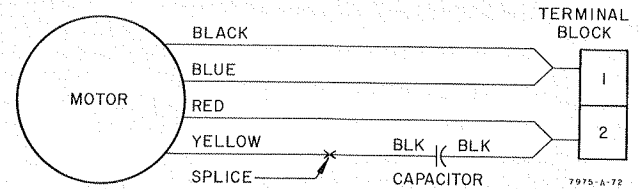

Figure 7-11. Capstan Motor Wiring
- f. Connect wiring (figure 7-11) and install assembly on transport. Do not tighten screws.